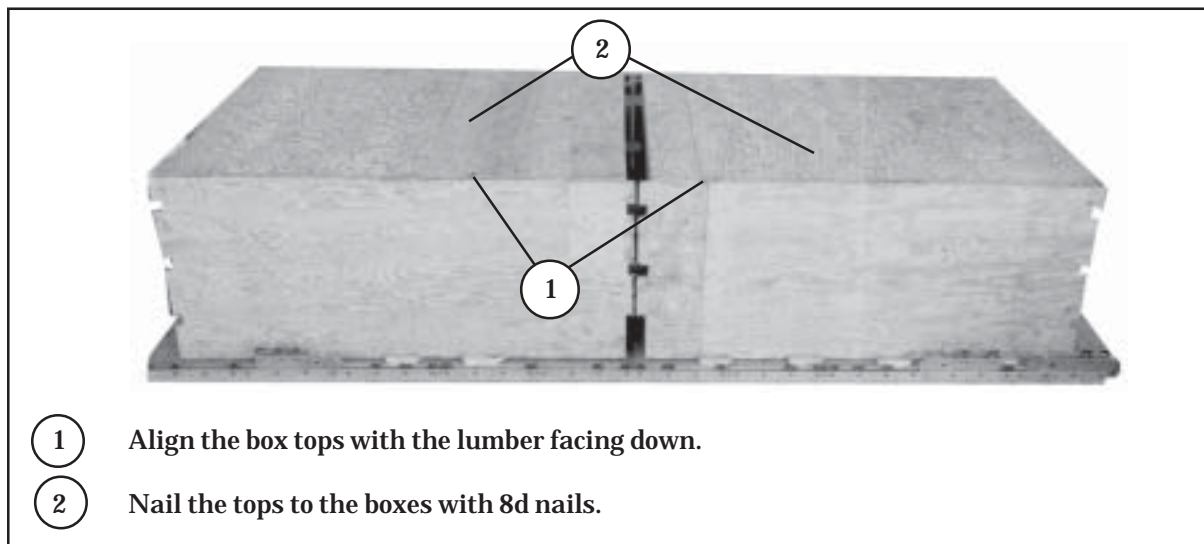

Figure 6-7. Boxes Closed
- e. Close both boxes as shown in Figure 6-7.